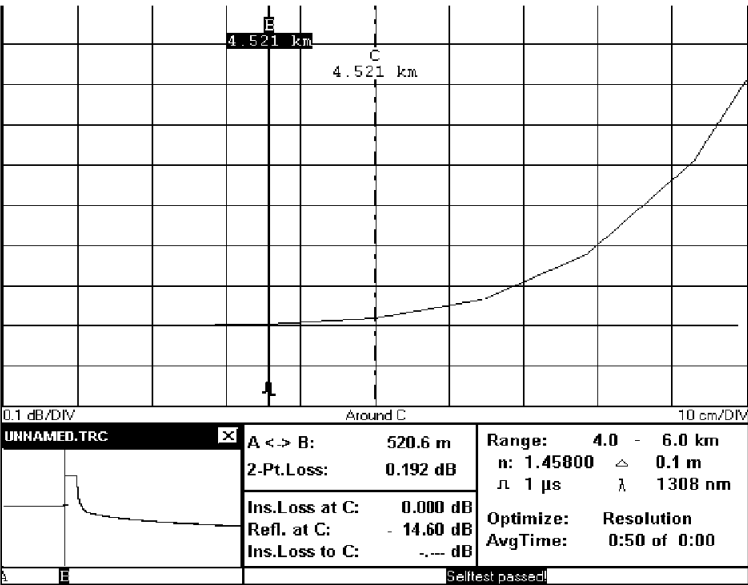

Figure D-12
- 20 View the trace around marker C. Set the y-axis scale to 0.1 dB/DIV and the x-axis scale to 0.1 m/DIV. See Figure D-12.
- 22 Position marker B on the beginning of the reflection, for this test, the last point on the backscatter. See Figure D-12.